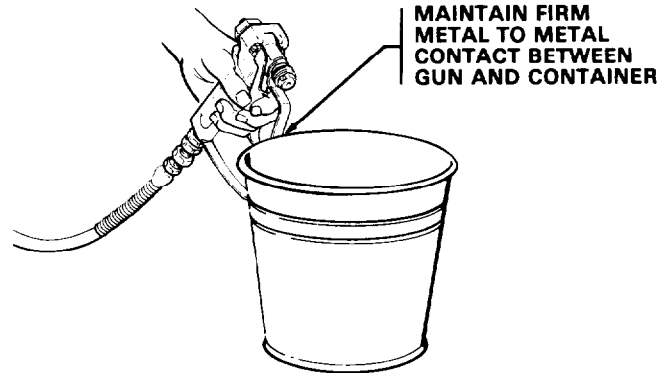

Fig 4
- f. Hold a metal part of the gun firmly against and aimed into a metal waste container. See Fig 4. Squeeze the trigger and hold it open, turn the ON/OFF switch to ON, and slowly increase the pressure setting until the sprayer starts. Keep the gun triggered until all air is forced out of the system and the paint flows freely from the gun. Release the trigger and engage the safety.